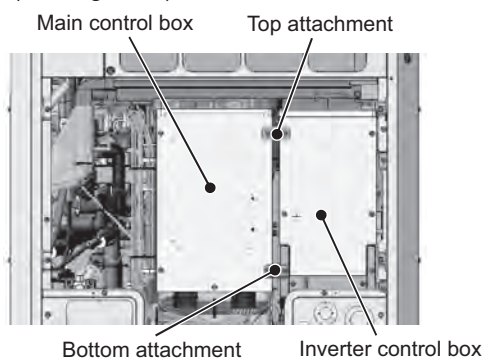

Figure 4
- (5) Remove the bottom attachment connecting the main control box and the inverter control box by unscrewing the two screws. (See Figure 4.)